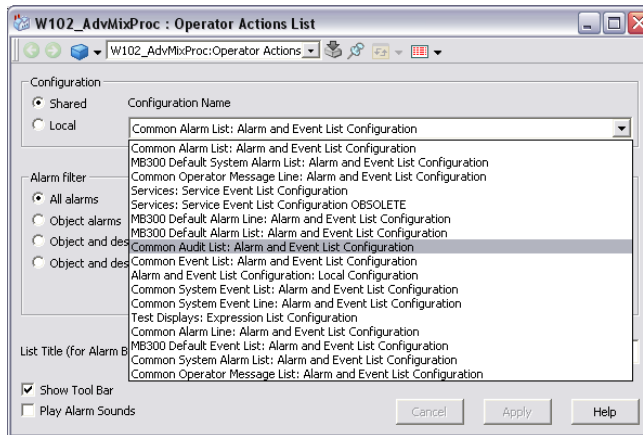

Figure 72. Select Configuration Name
4. In the Configuration area select **Common Audit List**, see Figure 72.